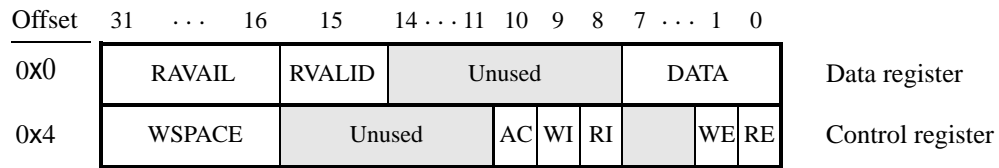

Figure 2. JTAG UART registers.
The JTAG UART includes a transmit (TX) FIFO queue that stores data waiting to be transmitted to the host computer. The size of this FIFO queue is 64 characters by default, and can be configured when the core is instantiated in Platform Designer. Character data is loaded into this FIFO queue by performing a write to bits 7–0 of the *Data* register in Figure 2. Note that writing into this register has no effect on received data. The amount of space, *WSPACE*, currently available in the TX FIFO queue is provided in bits 31–16 of the *Control* register. If the TX FIFO queue is full, then any characters written to the *Data* register will be lost.